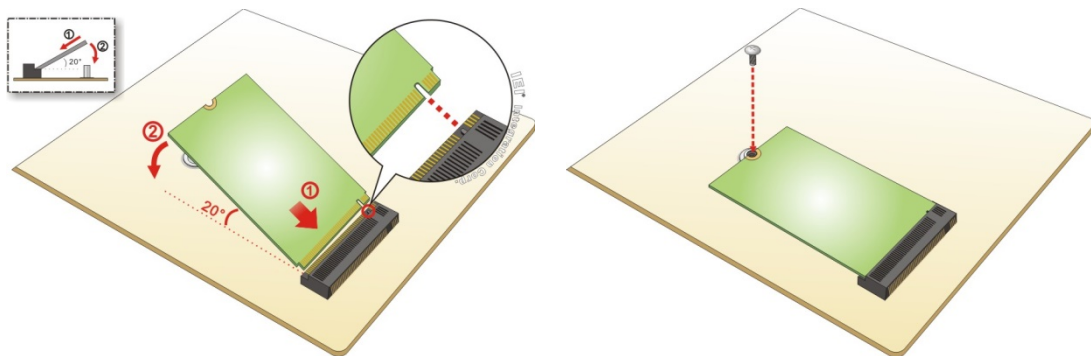

Figure 3-7: M.2 SSD Installation
Step 3: Line up the notch on the M.2 SSD with the notch on the connector. Slide the M.2 SSD into the socket at an angle of about 20° (Figure 3-7).
Step 4: Secure the M.2 SSD with the retention screw. Push the other end of the M.2 SSD down and secure the card with the previously removed retention screw (Figure 3-7).